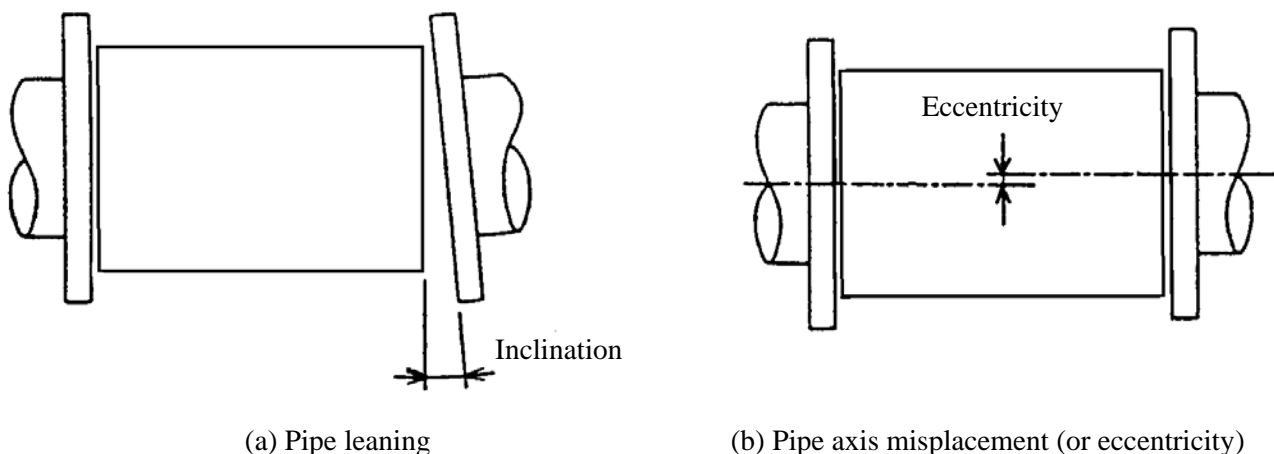

Figure 4.1 Pipe leaning and axis misplacement
(1) Before installing pipes, check for any leaning, misplacement or eccentricity as illustrated in Figure 4.1. An attempt to unreasonably connect pipes that are inclined may lead to a detector breakdown or fluid leakage. Connecting pipes in an eccentric state may also cause wear and tear of linings and grounding rings, as well as measurement errors.